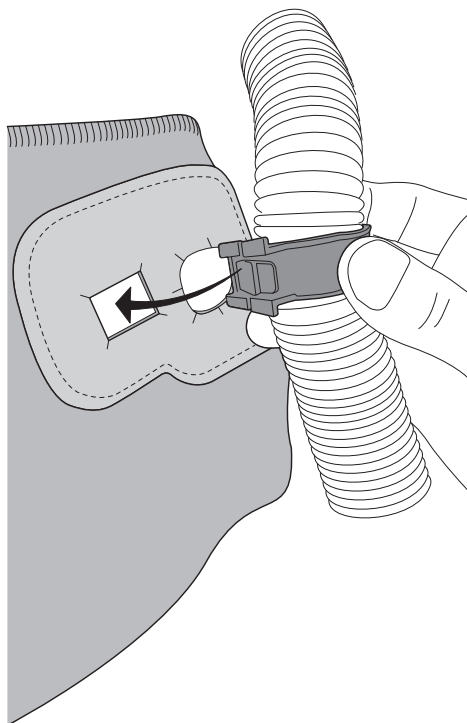

Fig. 29b
- b. While holding the airduct tube holder ring together, push it through the rectangular hole in the back of the shroud (Fig. 29b).